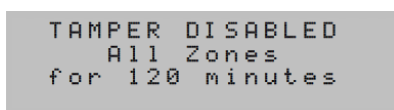

Figure 7-23: Tamper Off display
3. If you switch tamper alarms OFF, the screen in Figure 7-23 displays before it returns to the zone list after a few seconds.